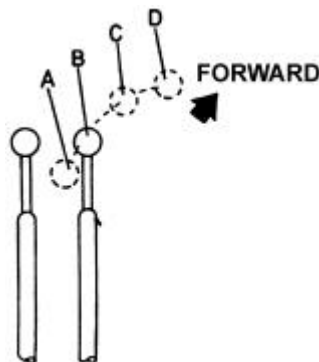

Fig. 4.28. Boom Control Lever Positions (Standard Version)
4.17.1. BOOM CONTROL LEVER POSITIONS (Fig. 4.28.)
RAISE (A, Fig. 4.28, 4.29)
HOLD (B, Fig. 4.28, 4.29)
LOWER (C, Fig. 4.28, 4.29)
FLOAT (D, Fig. 4.28, FOR STANDARD VERSION)